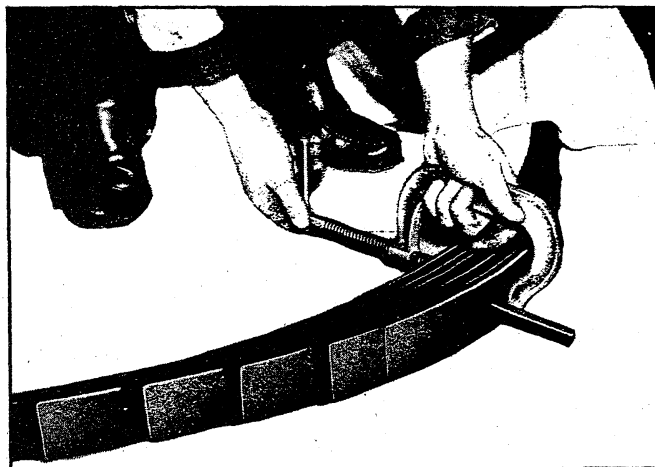

Fig. 61—Aligning Spring Leaves (Corvette)
5. Insert drift into center bolt holes in leaves to align spring leaves (fig. 61). Install center bolt and tighten securely.